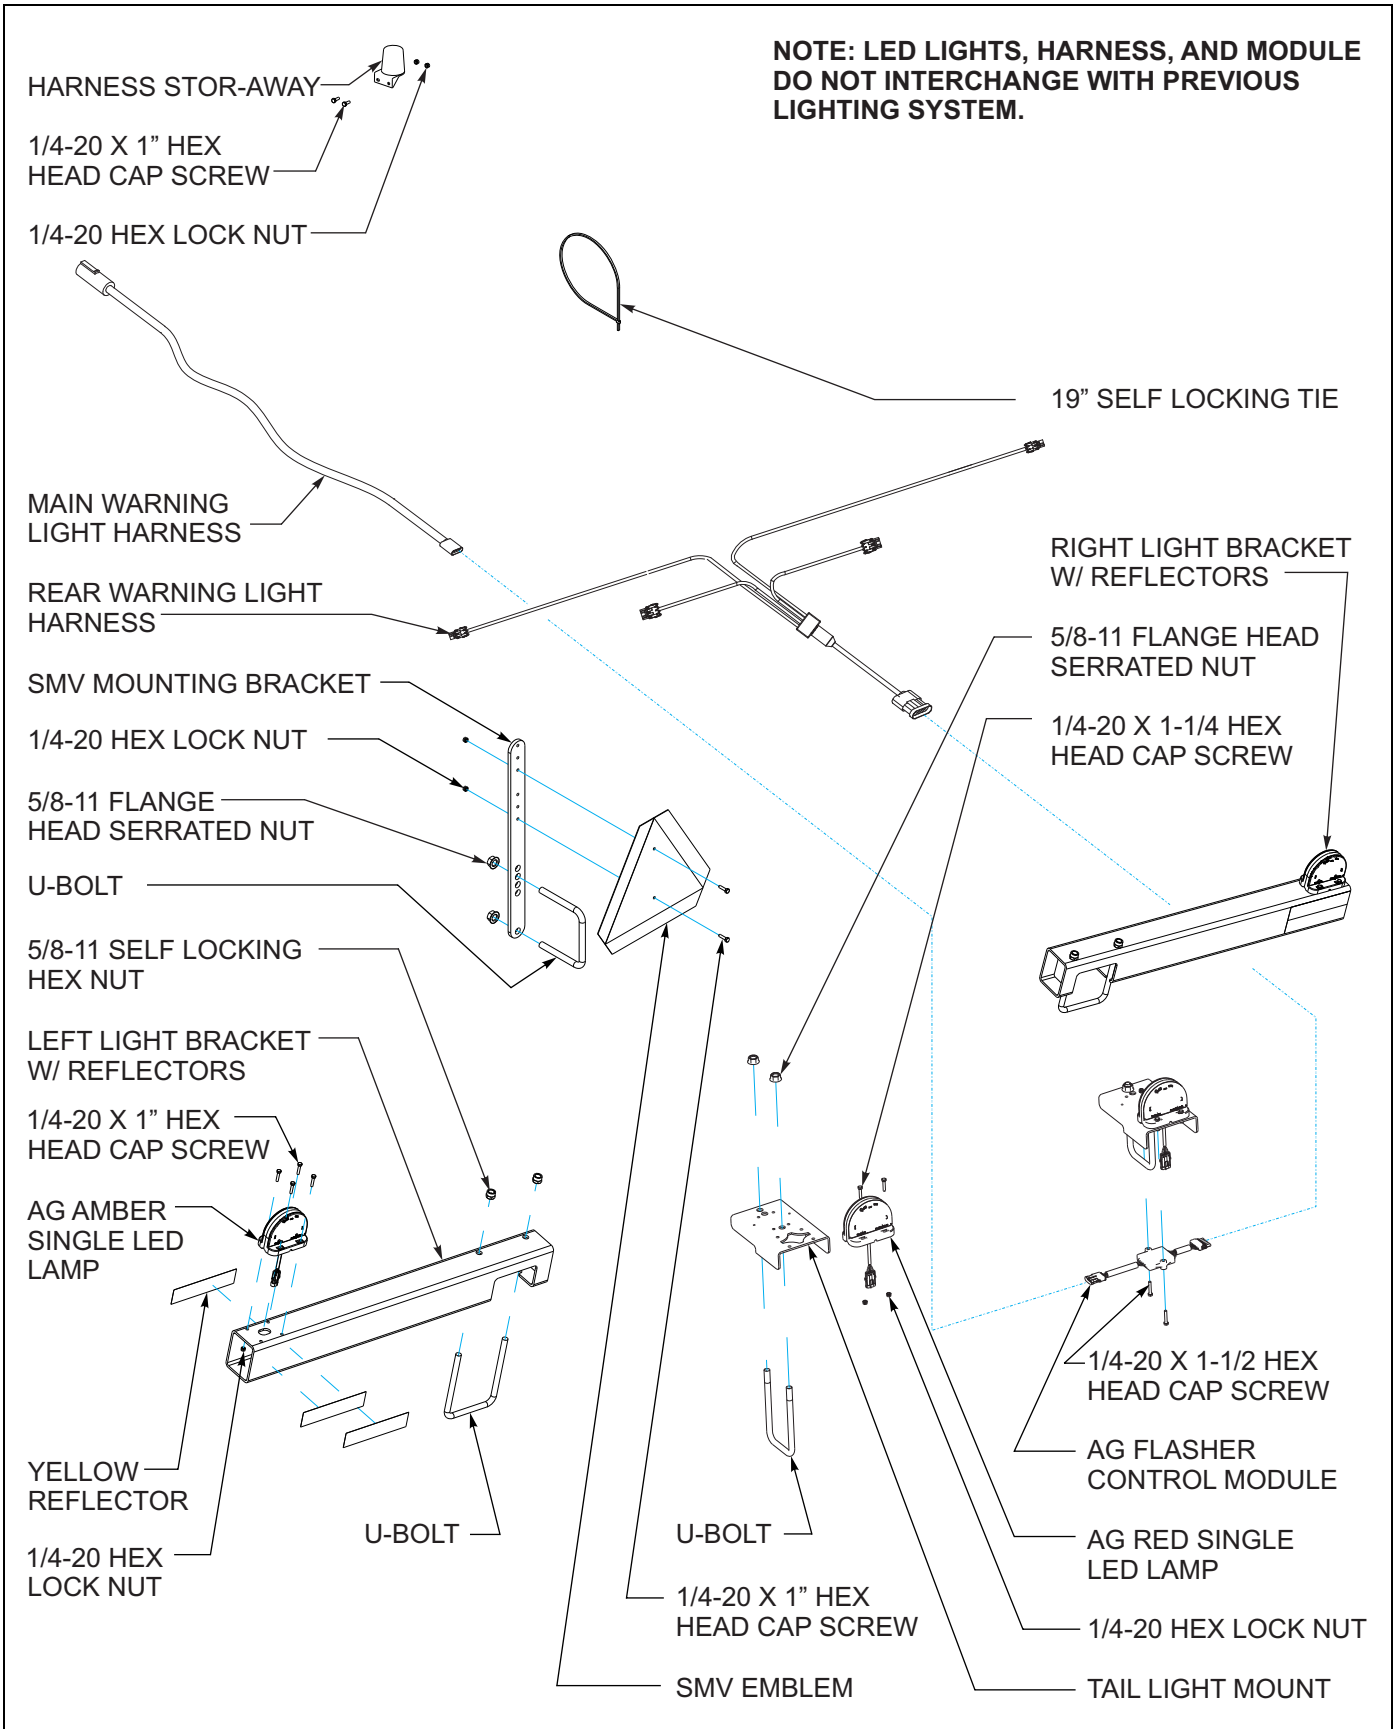

Figure 3-12: LED Light and SMV Bracket Installation
1. Attach left and right light brackets with reflectors to center frame using u-bolts and hex lock nuts (See Figure 3-12.)